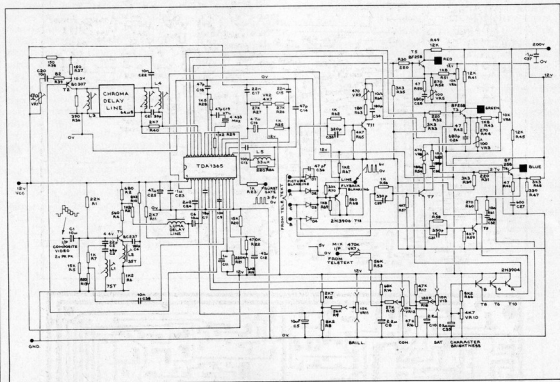

Figure 3. Circuit diagram of the colour decoder with Teletext inputs.
Figure 1 shows the internal block diagram and some relevant CRT pictures. Note that these pictures also apply to figure 3.
The application has few external components with minimal external adjustments (see figure 3). The circuit is supplied from a single 12 V supply with a low power dissipation.
- L1 . . . L4 = see figure 3